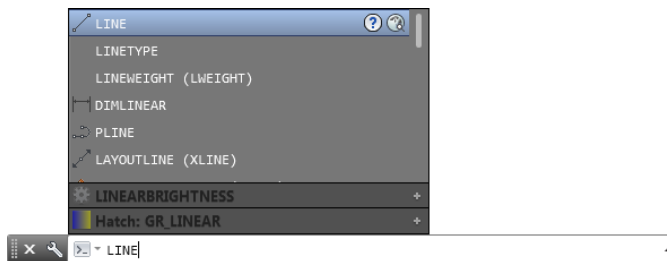

FIGURE 1.19: List of autocomplete options for the **LINE** command
1. Enter **LINE** at the command line and notice the list of possible commands the autocomplete feature displays, as shown in Figure 1.19. As you might expect, in addition to the **LINE** command, several other command names containing *line* are displayed.